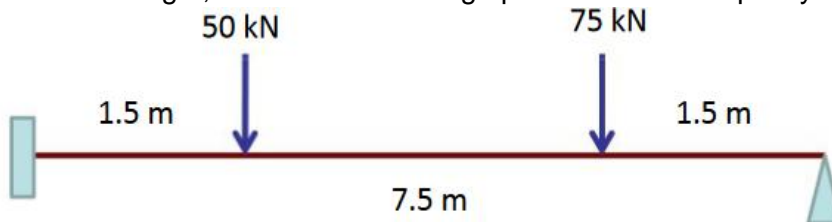

Fig.7
9. For the beam shown in Fig.7, determine the design plastic moment capacity.